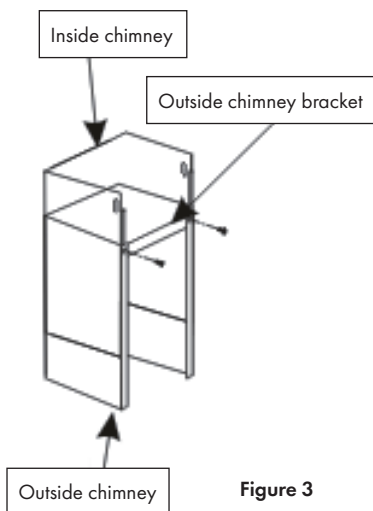

Figure 3
5. Fix the outside chimney bracket on the outside chimney, and be sure that the inside chimney can be adjusted the height in it freely. Afterwards, install the chimney on the cooker hood and lead the expansion pipe to outside (see figure 3).